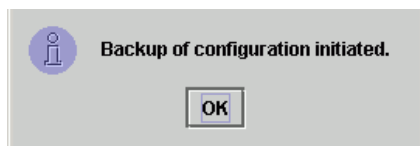

Figure 4-63 Information Dialog Box
4. Click *Backup*. An *Information* dialog box displays, indicating the backup operation was initiated (Figure 4-63).